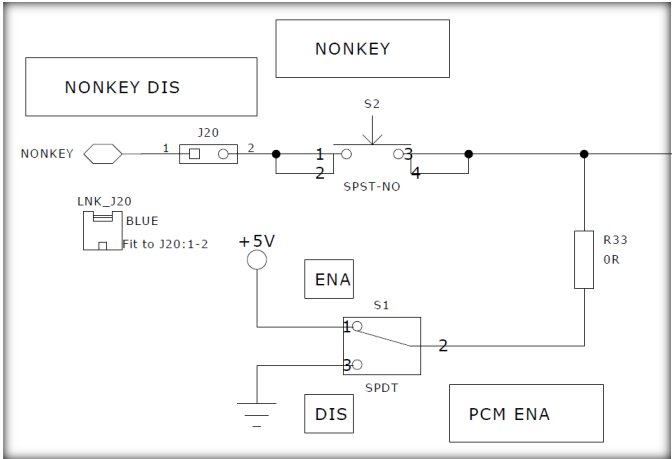

Figure 28: Power Commander Switches
- a. S1 (PCM_ENA) is in ENA position, see Figure 28.